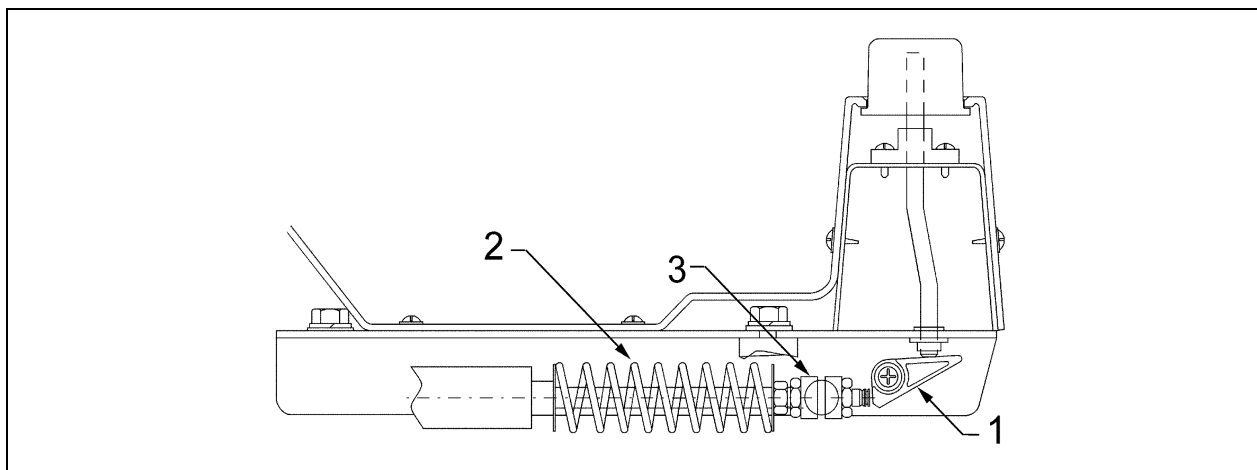

Figure 3: Existing mechanism. (1) Triangular lever to remove; (2) Existing cylinder to remove; (3) Spindle
- Remove the screw, the spring and the triangular lever that activated the cylinder (figure 3, item 1);
- Remove the existing cylinder (figure 3, item 2);
- Completely remove the cylinder's spindle in order to clear the hole (figure 3, item 3). Remove by grinding the weld behind the support plate and then hitting the spindle with a hammer.